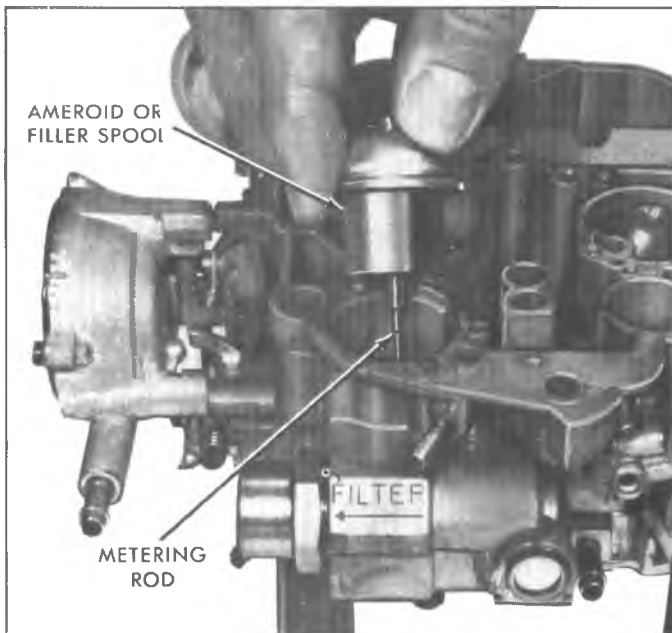

Fig. 12MQ—Removing A.P.T. Metering Rod or Aneroid
8. Remove two cover screws and carefully lift the A.P.T. metering rod with filler spool, or aneroid, from the float bowl (Fig. 12MQ).
7. Carefully install A.P.T. metering rod and cover assembly into float bowl aligning tab on cover assembly with slot in float bowl closest to the fuel inlet nut (Fig. 12MQ). Use care installing the A.P.T. metering rod and cover assembly into float bowl to prevent damage to the filler spool, aneroid, or metering rod tip.